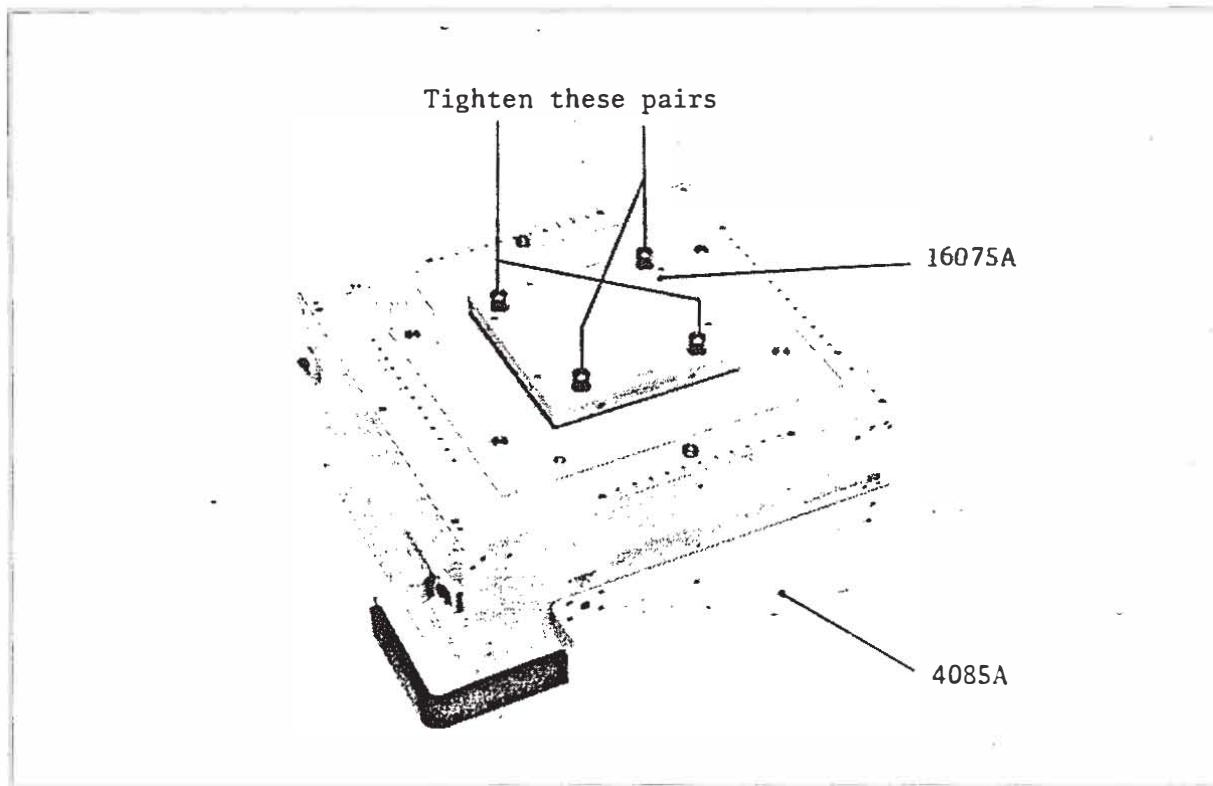

Figure 4-2. Relay Test Adapter Mounting
- (1) Be sure the contacts of the 16075A are clean. Then mount the 16075A securely atop the 4085A as shown in Figure 4-2. If the 16075A is loose, or if the contacts are dirty, poor contact with the measurement pins will result. The system may fail the test.